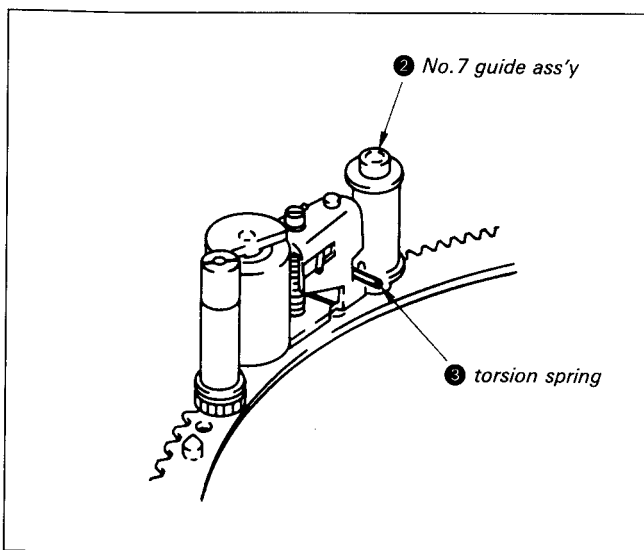

Fig. 7-15
- 3) Change the position of the torsion spring ❸ on No. 7 guide assembly ❷. (See Fig. 7-15.)